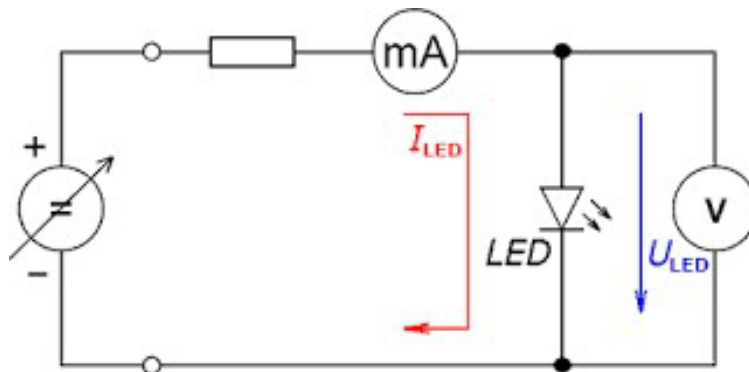

Fig.1 Circuit configuration for LED characteristic measurements.
1. Choose one *pn* junction diode or one color of LED together with the $100\ \Omega$ resistors to construct the circuit shown in Fig. 1 on the breadboard. Set the voltage of the power supply to zero volts before connecting it to the circuit. Set the multimeter to 10 V range for voltage measurement and 1 μA range for current measurement if the meters are not auto range changing model.
4. Use the same configuration as given in Fig. 1, and set the supply voltage so that the voltage across the LED or *pn* junction diode to the value of “ON” voltage plus 0.2 V or the diode current is 30 mA. Keep the supply voltage unchanged. Attach the thermistor to the diode surface. Use a hair dryer (set the hair dryer to low-heat mode) to heat the LED for a few seconds. Record the current and voltage values across the *pn* diode or LED for the temperature at around 40, 60, and 80 $^{\circ}\text{C}$. For the measurement of LED, note the change in light intensity of the LED under testing. Repeat for different LEDs. The light intensity change in this work is notified by observation. You may record the light